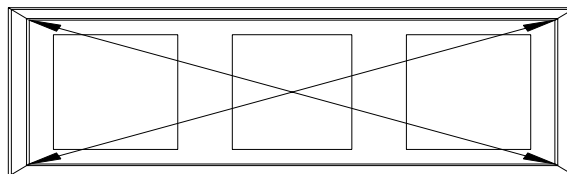

FIGURE 1.
- b) A diagonal measurement must be within 1/8” of being equal before fastening top of frame. (Figure 1). A frame out of square can result in a door sag or improper closing.